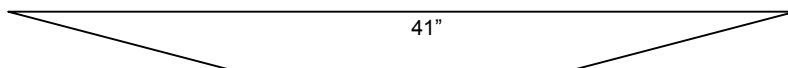

Figure 1
- 3) Miter cut at 45 degrees the piece at 41" making sure that the miter cut is done in the correct direction (see Figure 1). Think of how a picture frame is pieced together.